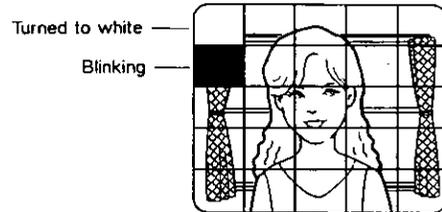

Fig. 60
- To mask other areas, move the cursor to the desired area by using the Up Button (AGC), Down Button (AWC), Left Button (WHT) or Right Button (GAIN). The previous masked area then stops blinking and turns to white as shown in Fig. 60.